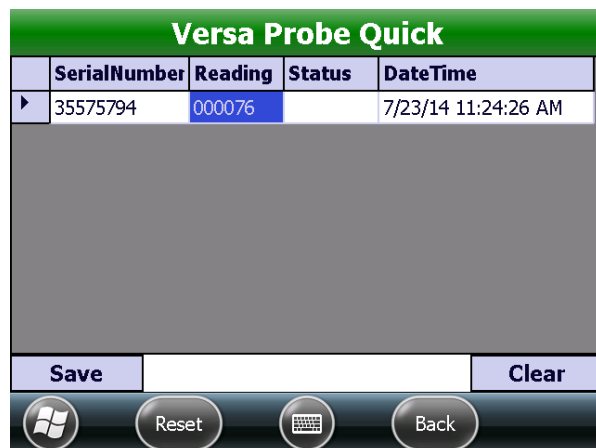

Figure 92: Quick Read completed
*Result: The reading is displayed, along with the date and time of the last read, as shown in Figure 92.*